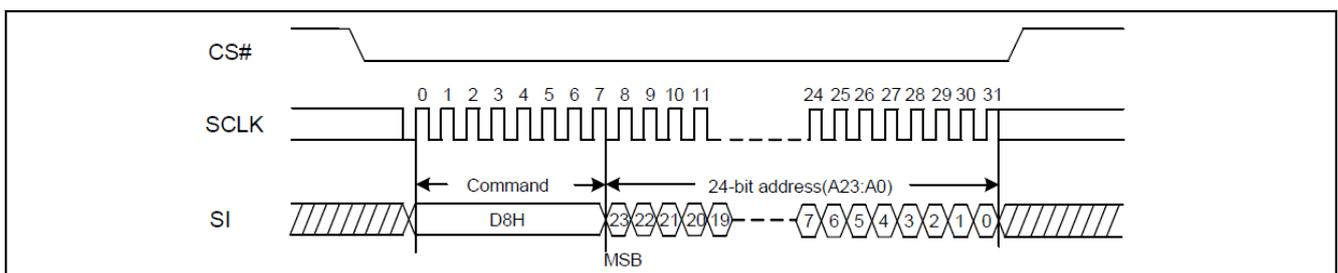

Figure9. Block Erase Sequence Diagram
The Block Erase command sequence: CS# goes low send Block Erase command 3-byte address on SI CS# goes high. The command sequence is shown in Figure9. CS# must be driven high after the eighth bit of the last address byte has been latched in; otherwise the Block Erase (BE) command is not executed. As soon as CS# is driven high, the self-timed Block Erase cycle (whose duration is tBE) is initiated. While the Block Erase cycle is in progress, the Status Register may be read to check the value of the Write In Progress (WIP) bit. The Write In Progress (WIP) bit is 1 during the self-timed Block Erase cycle, and is 0 when it is completed. Write Enable Latch (WEL) bit is reset to 0 at the end of the Block Erase cycle. Block Erase (BE) commands applied to a block which is protected by the Block Protect (BP2, BP1, BP0) bits (see Table1) is not executed.